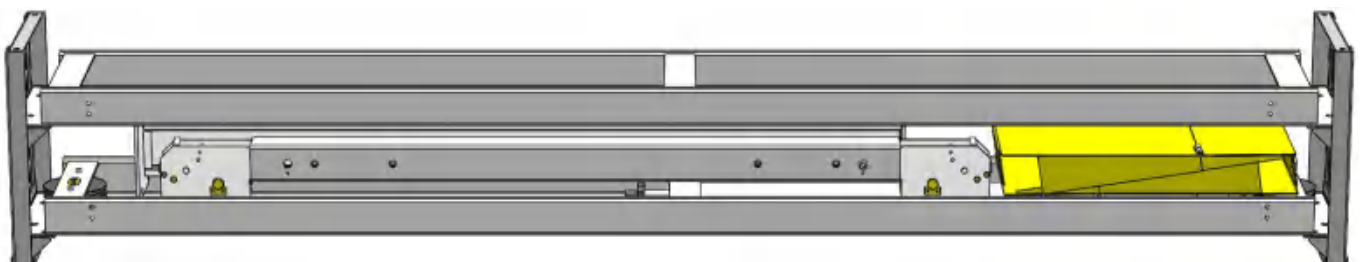

Fig. 10
3. Move the columns aside to the installation position. (see Fig 10)